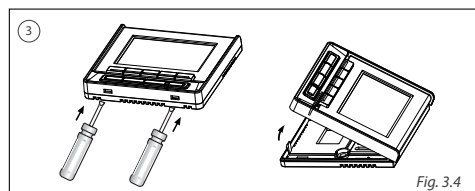

Fig. 3.4
4. Take off the screws in the bottom cover of centralized controller by slotted head screw driver. (See Fig 3-4)